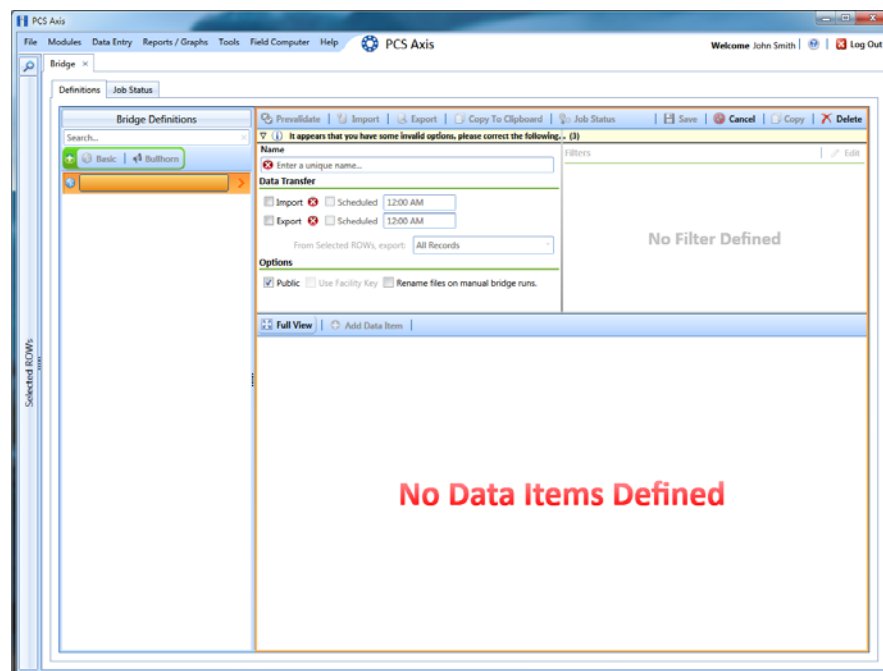

Figure 9-48. Basic Definition Panel
- 2 Click **Tools > Bridge** to open the *Bridge* window. Then click  **Basic** to open the basic definition panel (Figure 9-48).
- 3 Type a unique name for the Bridge definition in the **Name** field (Figure 9-48, page 434).